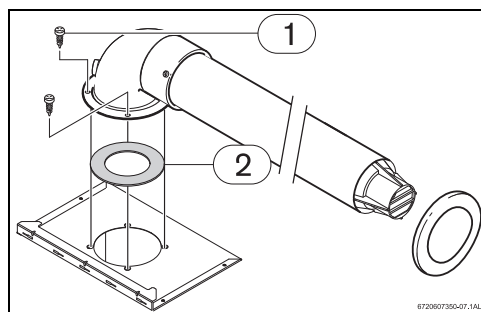

Fig. 11 Restrictor plate
- ▶ Loosen accessory fixing screws (→Fig. 11, [1]).
- ▶ Place restrictor plate (→Fig. 11, [2]) between the accessory and the appliance.
- ▶ Reassemble the accessory in the appliance using the 4 screws (→Fig. 11, [1]).
Depending on flue exhaust and installations conditions, a restrictor plate may need to be fitted (→Fig. 11) under the accessory (table 11 and 12).
- ▶ Loosen accessory fixing screws (Fig. 11, [1]).
- ▶ Place restrictor plate (Fig. 11, [2]) between the accessory and the appliance.
- ▶ Reassemble the accessory in the appliance using the 4 screws (Fig. 11, [1]).